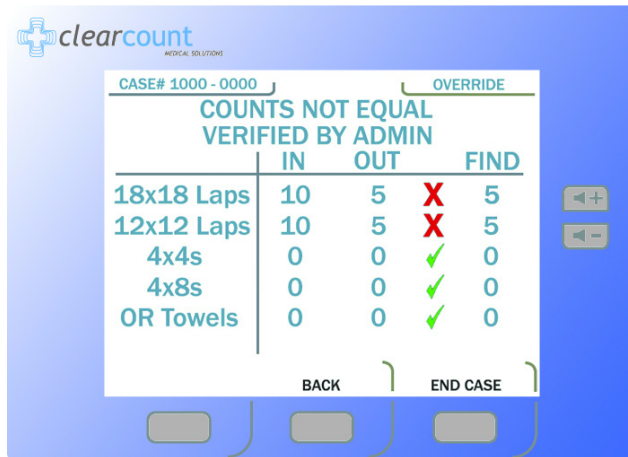

Figure 2-8 Counts not Equal Verified By Override Screen
- Step 2 The responsible party for the Admin card will need to be sent for or on hand. Then scan the Admin card by placing it onto the Count In Scanner and holding it there until you hear an audible alert. The Verified by Admin screen shown in Figure 2-8 will then appear.